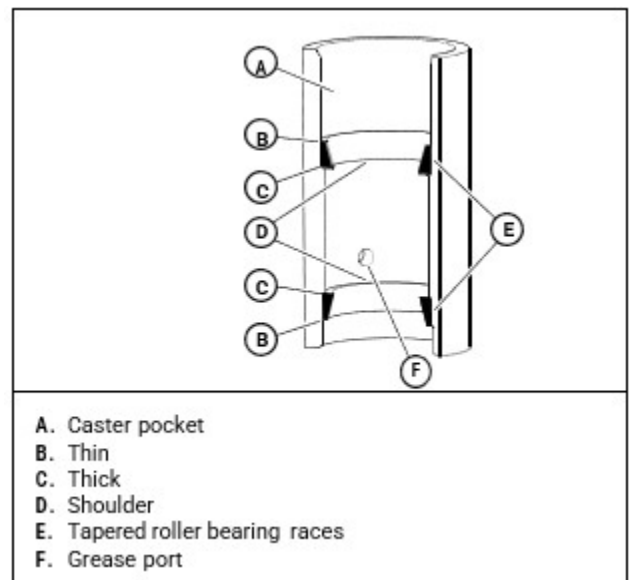

Figure 31
7. Make sure the bearings outer race is correctly aligned before pressing the outer race into the fully-seated position against the caster pocket shoulder. [Figure 31]